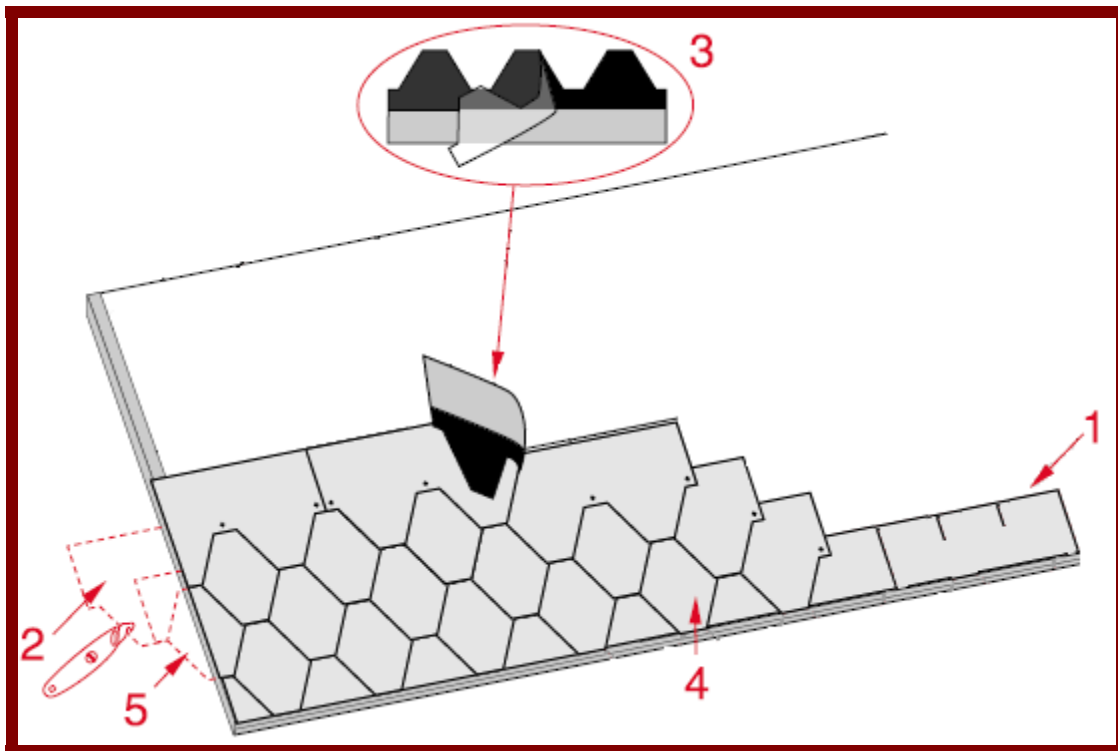

Figure 2
- Shingles may have a self adhesive strip on the back. You need to remove the film from before fitting, see **(3)** in **Figure 2**. You still need to nail the shingles down.
The starter strip should be approximately 33cm in width by the length of the roof, you may need to cut your full roll into strips for this process. It should fit flush to the front of the log cabin roof but overlap the eaves edge by approx 1cm. Fix down, see **(3)** in **Figure 2**.
Take a length of shingle, cut one of the squares off using a Stanley knife. Lay the shingle on the roof (front eaves edge). It should fit flush to the front of the log cabin roof but overlap the eaves edge by approx 1cm. Fix down, see **(3)** in **Figure 2**.
APPLICATION PROCEDURE (Figure 2)